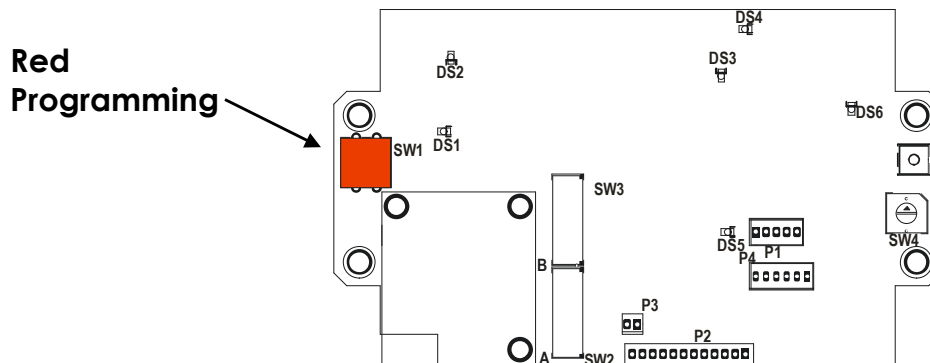

Figure 3: SW1 Switch
- Press and hold the red programming switch, SW1 (see Figure 3), for approximately 5 seconds, then release.